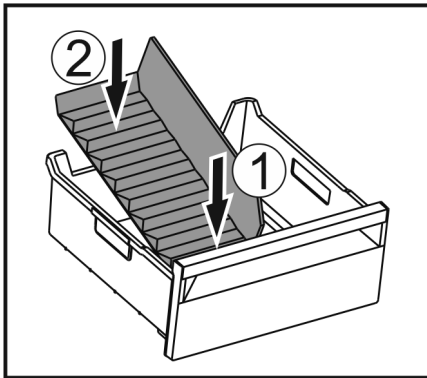

Fig. 111
- ▶ Insert the front part of the ice compartment divider. Fig. 111 (1)
- ▶ Lower the rear part of the ice compartment divider to the drawer bottom. Fig. 111 (2)